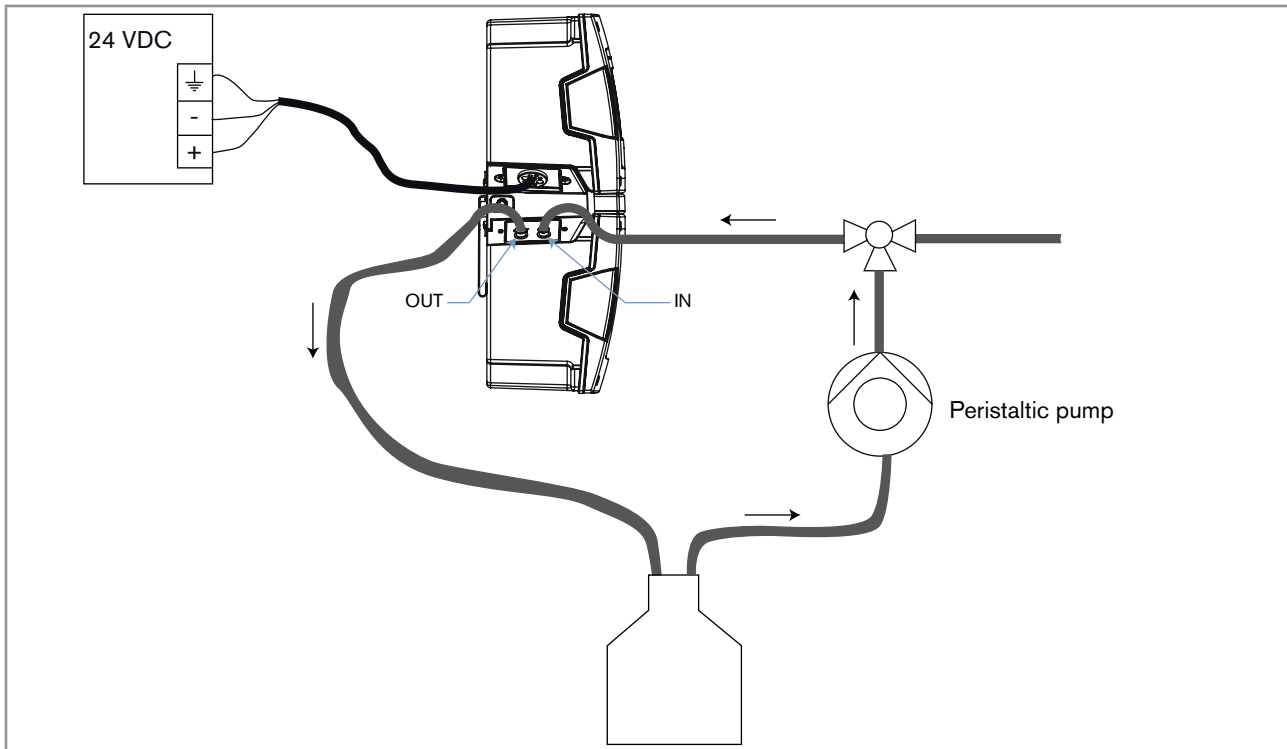

Fig. 3: Installation for the calibration of the sensor in a system type 8905
1. Connect a peristaltic pump in the water sample inlet circuit of the system, as shown in Fig. 3. If the fluidic connections are not done correctly, the product and the system can be damaged because the pressure in the product and in the system is too high.
1. Connect a peristaltic pump in the water sample inlet circuit of the system, as shown in Fig. 3, chap. 8.10.1. If the fluidic connections are not done correctly, the product and the system can be damaged because the pressure in the product and in the system is too high.